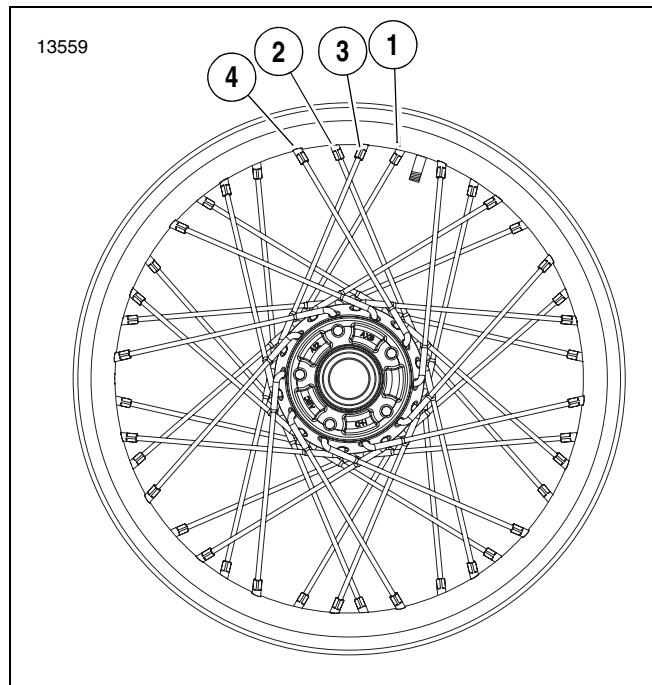

Figure 1. Tightening Laced Wheels (Typical)
1. See Figure 1. Starting at the valve stem, identify the first group of four spokes (1-4).
1. See Figure 1. Starting with the first group of spokes, loosen spoke (1) using SPOKE NIPPLE WRENCH (Part No. HD-94681-80) 1/4 turn.
2. Using SPOKE TORQUE WRENCH (Part No. HD-48985) tighten spoke (1) to 55 in-lbs (6.2 Nm).